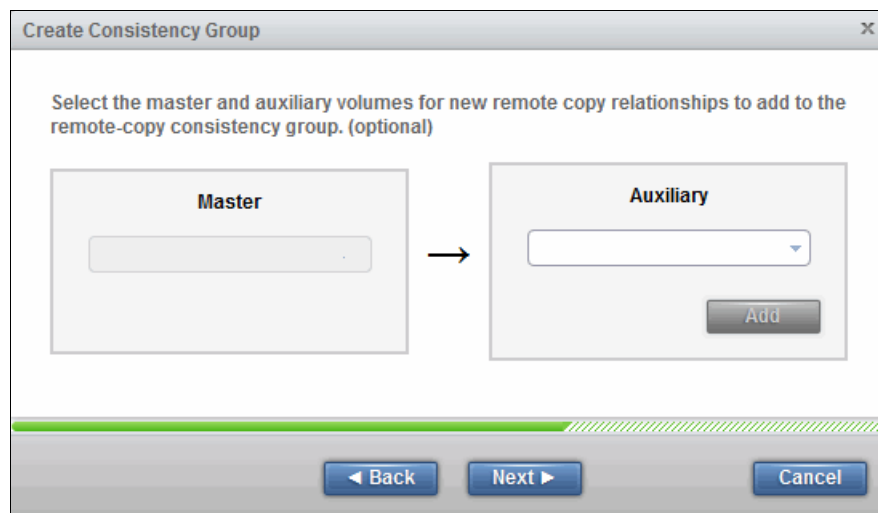
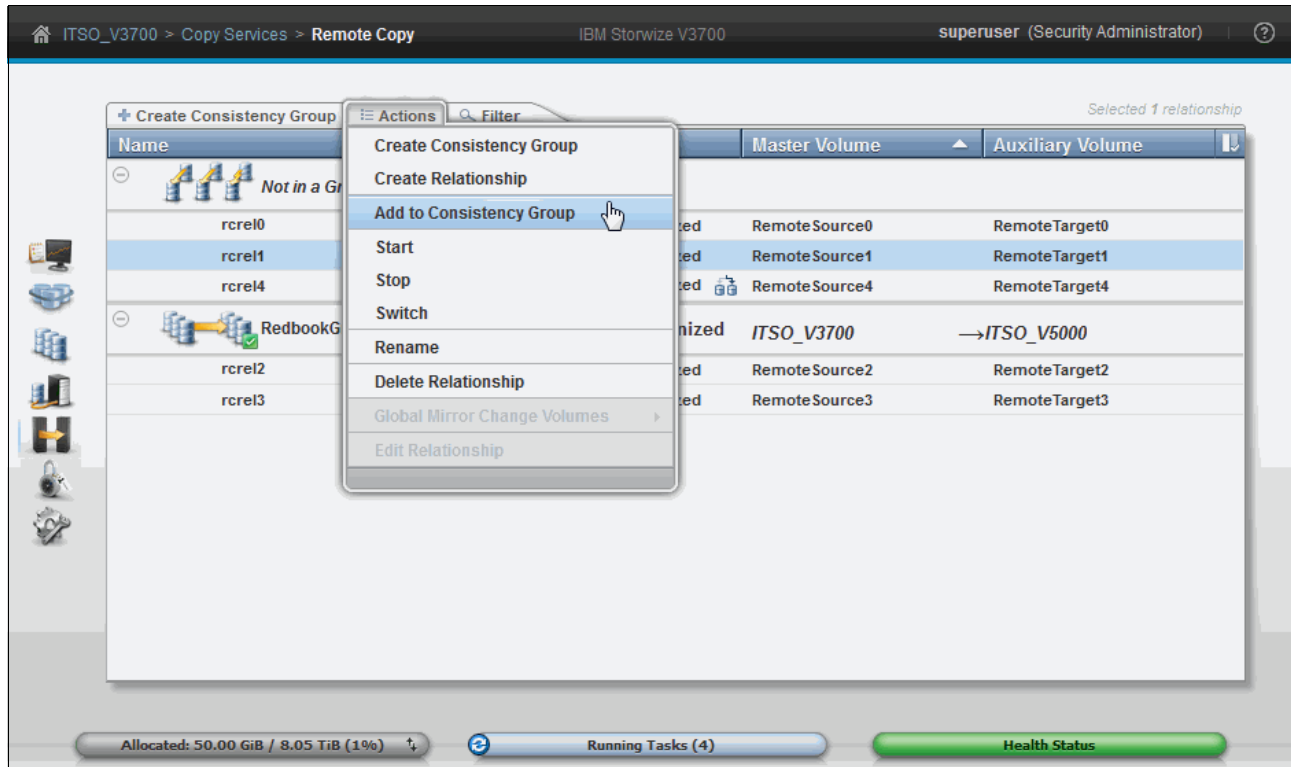

Figure 10-126 Adding new relationships in the consistency group wizard
Figure 10-133 Add a Remote Copy relationship to a consistency group
- The next window is optional, and gives the option to create new relationships to add to the consistency group, as shown in Figure 10-126.
1. Select the volumes and click **Add to Consistency Group** from the **Actions** menu, as shown in Figure 10-133. Now that the relationship that we tried to add earlier in Figure 10-126 on page 561 is in the same state as the consistency group, you can add that to the *ITSOTest* group.